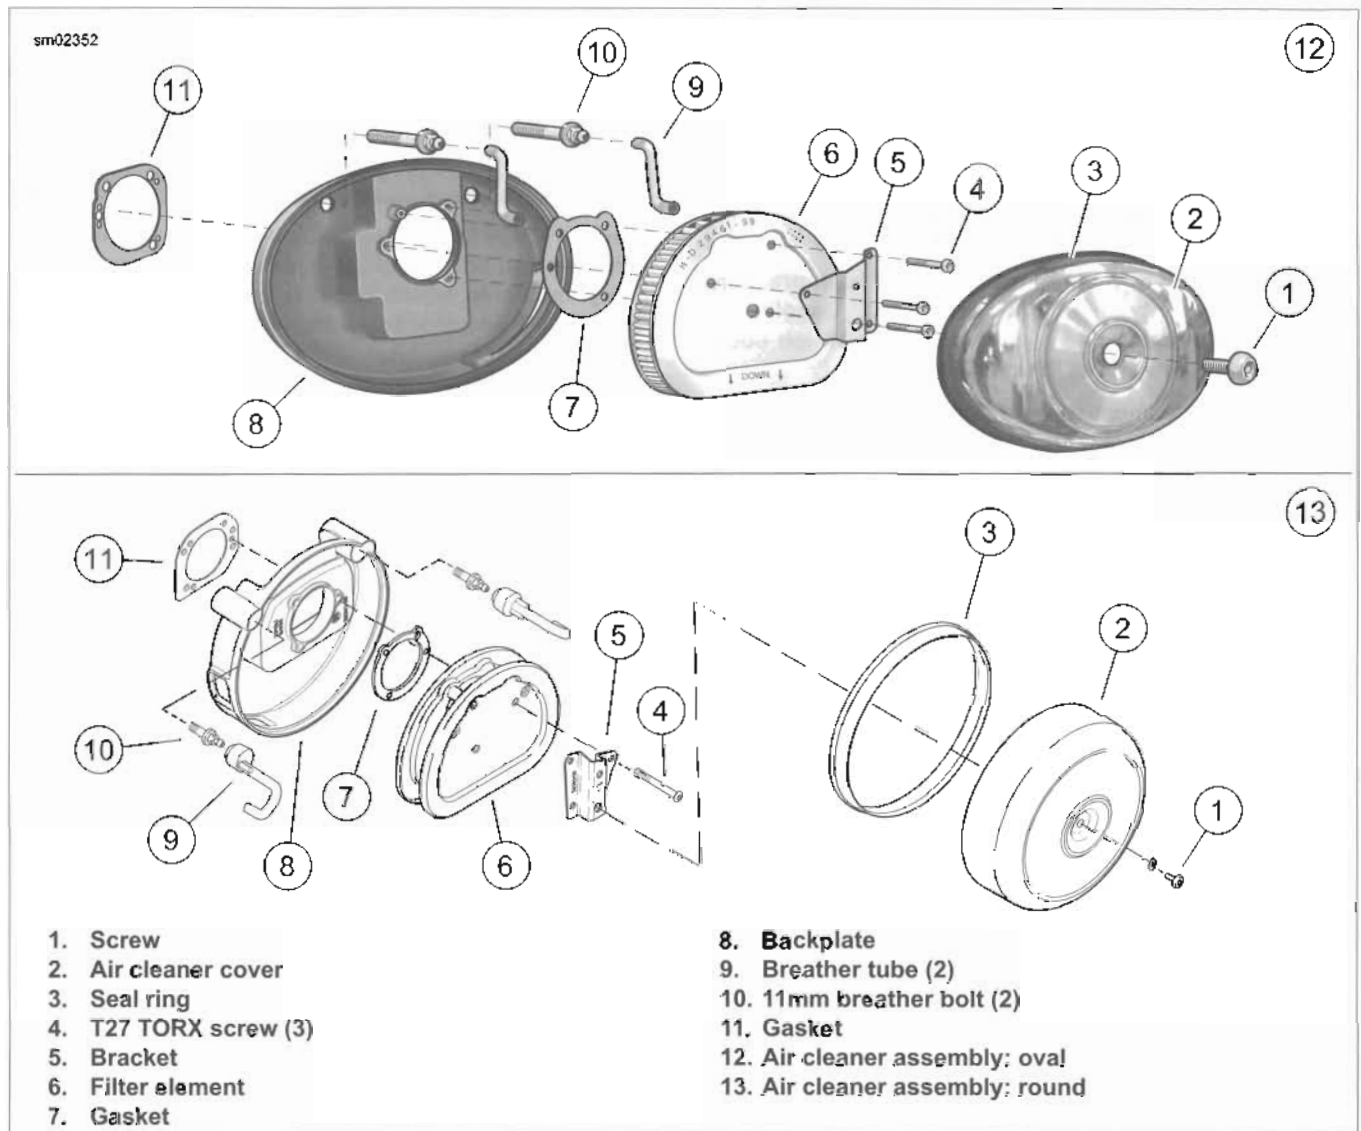

Figure 4-1. Air Cleaner Assembly
1. See Figure 4-1. Remove screw (1) and air cleaner cover (2).
2. Remove three TORX screws (4) and bracket (5) from filter element (6).
3. Gently pull both rubber breather tubes (9) from the element. Remove filter element (6) and gasket (7).
5. Gently pull breather tubes (9) from breather bolts (10) on the backplate.
7. Inspect seal ring (3) for cracks or tears. Verify that it seals tightly to backplate. Replace as required.
8. Alternately back out both breather bolts (10) a few turns a time while pulling backplate (8) away from induction module.
9. Continue previous step until breather bolts are clear. Remove backplate (8) and gasket (11). Discard gasket.
10. Wipe inside of air cleaner cover (2) and backplate (8) with damp cloth to remove dust.
1. See Figure 4-1. Position new gasket (11) on backplate. Insert two breather bolts (10) into backplate. Thread bolts loosely into each cylinder head. Final tighten bolts to 22-24 ft-lbs (29.9-32.6 Nm).